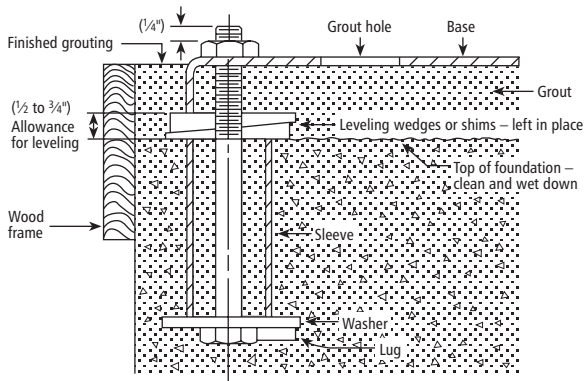

Figure 1
- The baseplate **MUST** be grouted to a foundation with a solid footing, per Figure 1.
- As depicted in Figure 1, place the baseplate on wedges, locating two wedges at each foundation bolt location. A gap of 3/4" to 1 1/2" (19 mm to 64 mm) is recommended between the baseplate and the foundation for grouting. Adjust the wedges as necessary to level the baseplate.